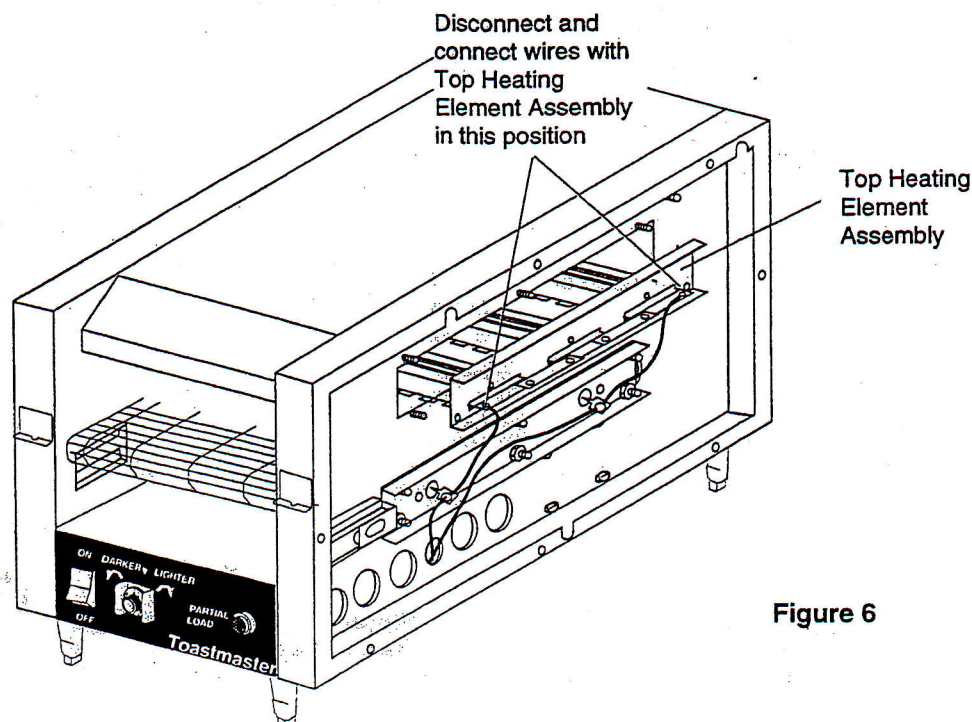

Figure 6
3. Slide the heater assembly part way out and then disconnect the 2 wires from the heater terminals by removing the 2 screws and nuts. Refer to Figure 6.